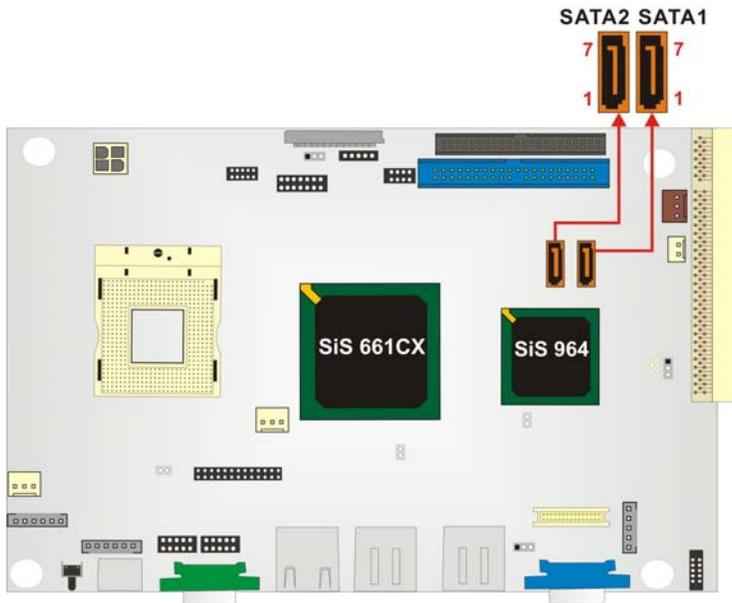

Figure 3-22: SATA Drive Connector Pinout Locations
- CN Location:** See Figure 3-22